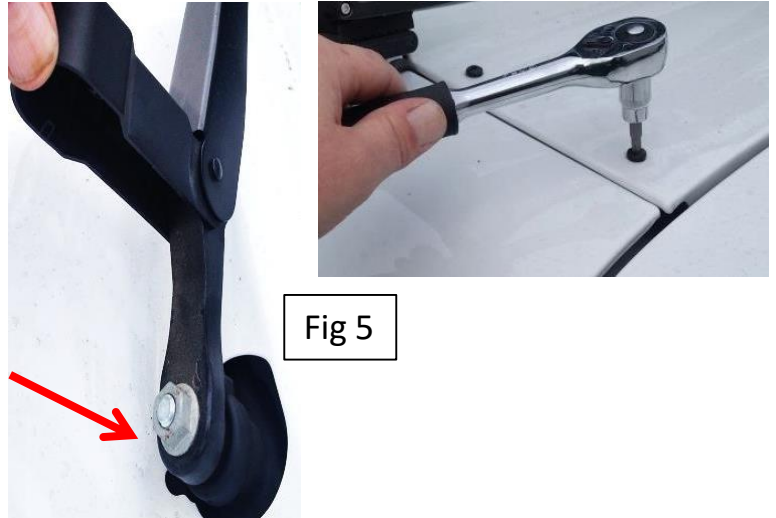

Fig 5
Step 4: Remove windshield wiper arms then remove the cowl cover attachment screws and remove cowl. Fig 5